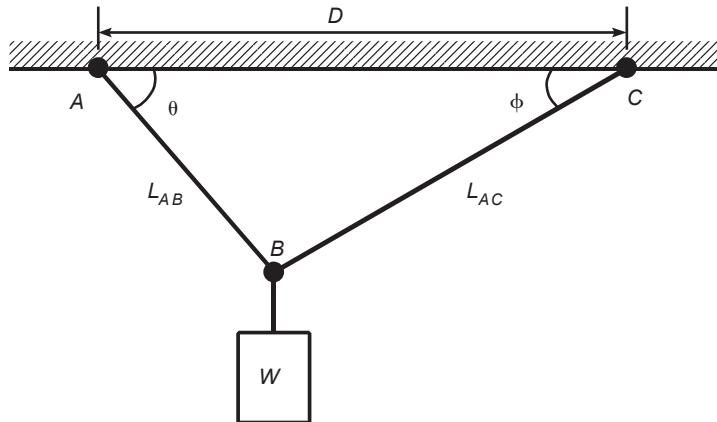

Figure P35
35. A weight W is supported by two cables anchored a distance D apart (see Figure P35). The cable length L_{AB} is given, but the length L_{AC} is to be